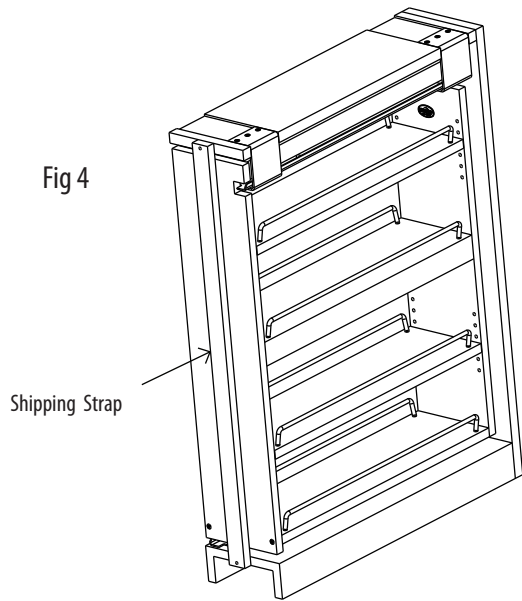

Fig 4
**Step 6.** Remove front shipping strap. (See Fig 4)